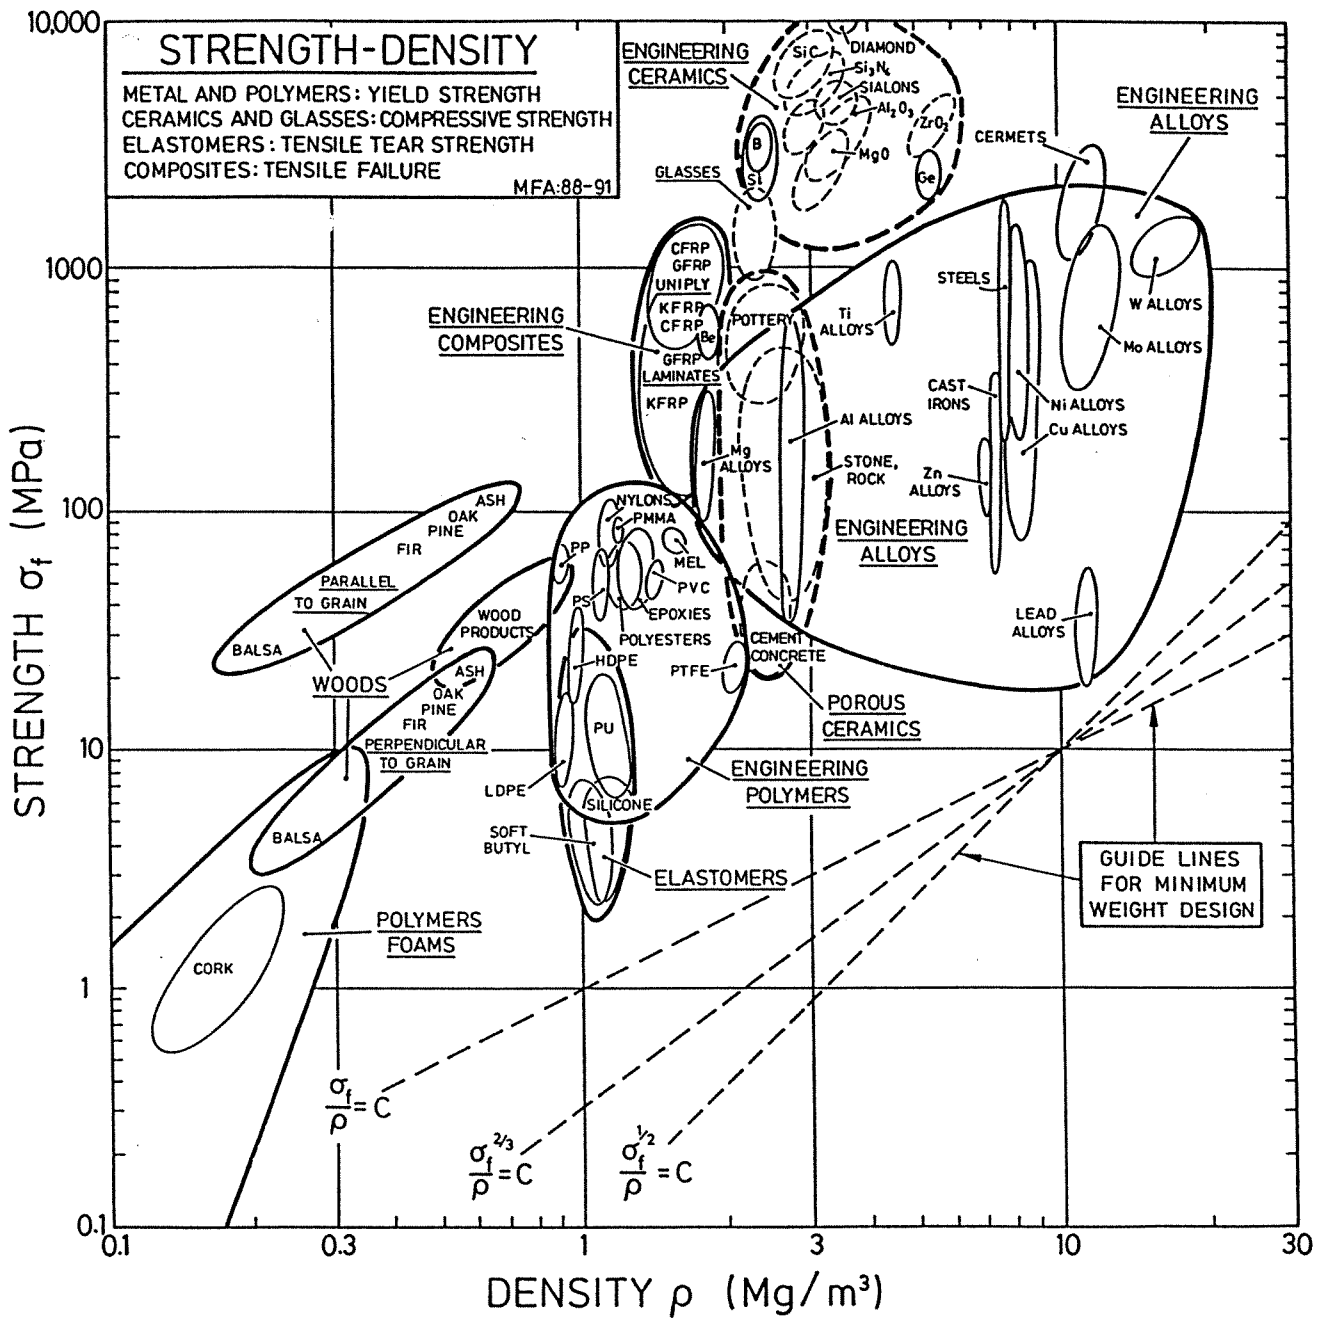

Figure 3
- (b) From the strength-density chart in Fig. 3, rank the following materials in decreasing order of suitability according to your merit index: Al_2O_3 ; GFRP; High Strength Steel; Lead Alloys; Tungsten Alloys. Would you expect the value of strength for Al_2O_3 on the chart to be correct for this application? [5]